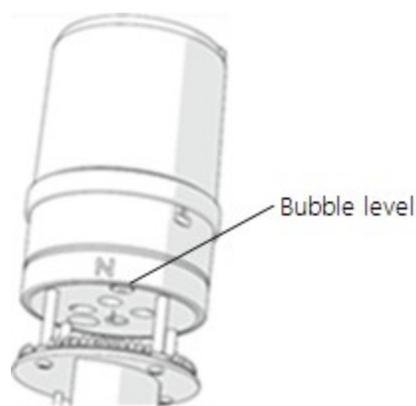

FIGURE 7-4. Bubble level on the ClimaVUE 50
4. Use a torpedo level or the bubble level underneath the sensor to level it (FIGURE 7-4 (p. 15)). The angle of the instrument mount may need to be adjusted if the mast is not vertical. Shims can be added between the top of the mast and the bottom of the ClimaVUE 50 to achieve level. The sensor must be within $\pm 2^\circ$ of dead level (0, 0) in both the X and Y directions to accurately measure rainfall and solar radiation. The $\pm 2^\circ$ can be confirmed by viewing the Tilt North(+)/South(-) and Tilt West(+)/East(-) orientation values returned by the **R7!** command.